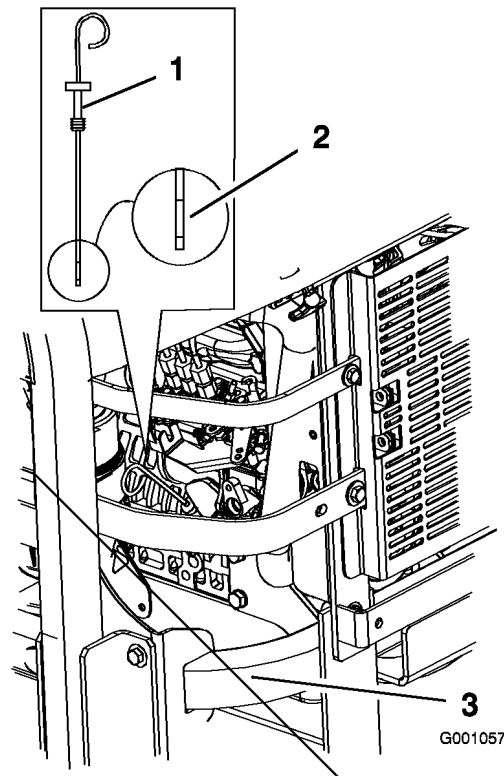

Figure 35
3. Clean around the oil dipstick (Figure 35) so dirt cannot fall into the filler hole and damage the engine.
4. Pull the oil dipstick out and wipe the metal end clean (Figure 35).
5. Slide the oil dipstick fully into the filler tube. Pull the dipstick out and look at the metal end (Figure 35). If the oil level is low, slowly pour only enough oil into the fill hole to raise the level to the full mark.